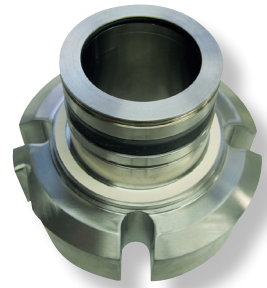

Figure 29
6.24 Adhere the gland gasket [18] to the inner gland gasket surface with a spray adhesive such as 3M Super 77®. See Figure 29.